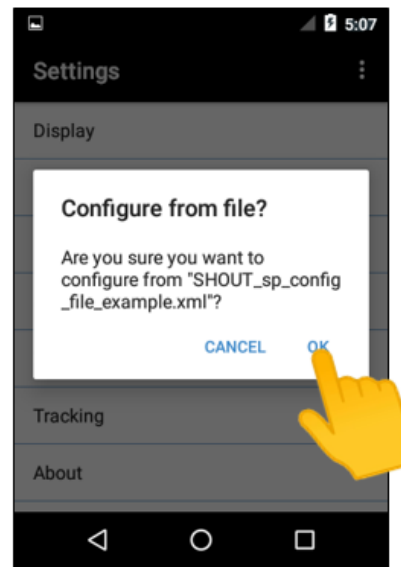

Figure 98: Configure Confirmation
The *Configure from file?* pop-up window displays (see **Figure 98**).
17. Tap **OK** (see **Figure 98**).